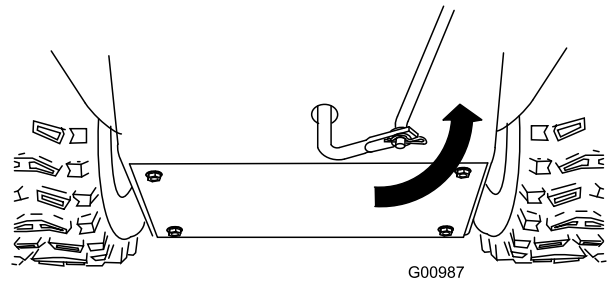

Figure 6
5. Rotate the lower link arm fully upward (counterclockwise) (Figure 6).